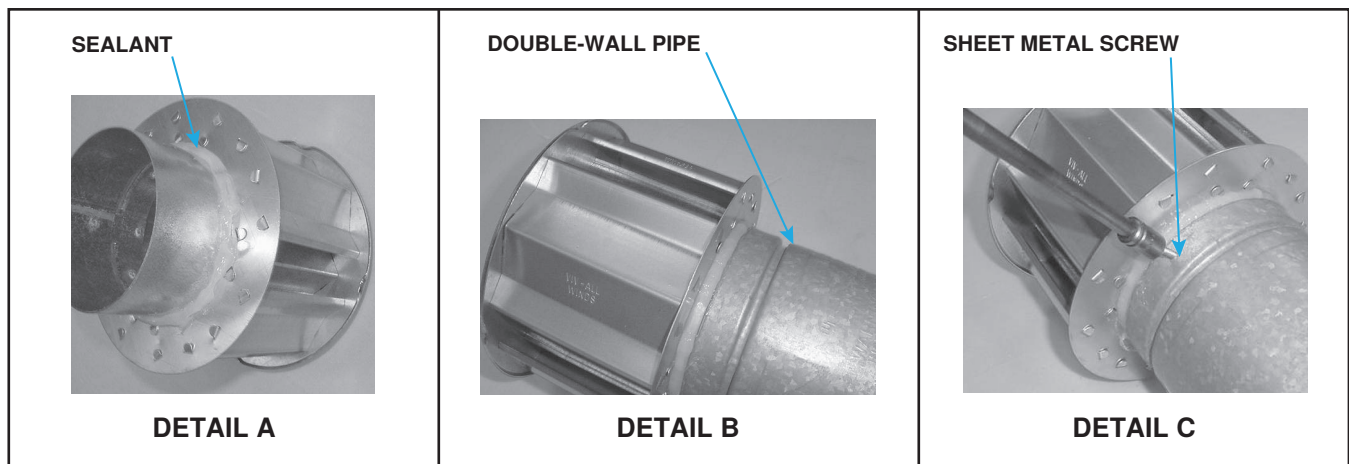

Figure 8. Connecting Double-Wall (Type B) Pipe to Vent Cap
- a. Apply continual 3/8-inch bead of silicone sealant around circumference of vent cap collar (see Figure 8, DETAIL A) to prevent any water inside vent cap from running down double-wall pipe.
- b. Before sealant has any time to dry, insert collar on vent cap as far as possible inside inner wall of double-wall pipe (see Figure 8, DETAIL B).
- d. Secure vent cap to double wall pipe by drilling hole and inserting 3/4-inch-long sheet metal screw into vent cap collar (see Figure 8, DETAIL C). Do not overtighten screw.
- e. **To seal the joint between the terminal section of double-wall vent pipe and the vent cap:** Follow the illustrated step-by-step instructions in Figure 8.